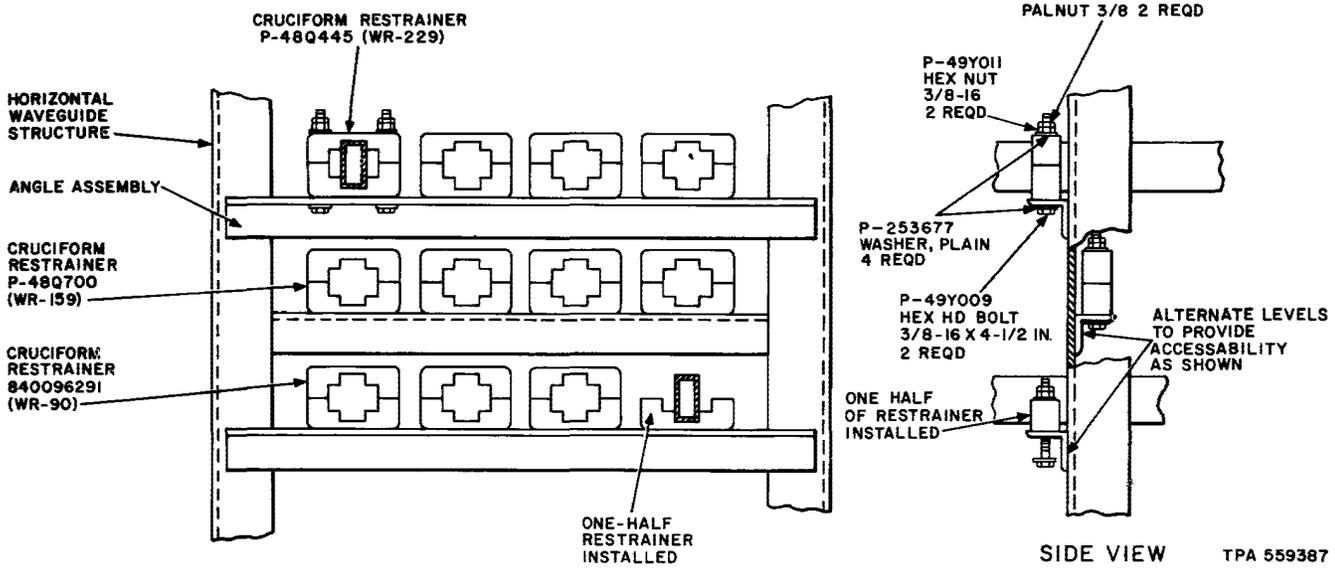

Fig. 8—Installation of Waveguide Truss and Cruciform Restrainer
2.15 Attach the angle assemblies to the vertical members of the horizontal raceway as shown in Fig. 8. Use the bolts, lockwashers, and nuts supplied. Note that each angle assembly in the vertical plane is rotated 180 degrees from the preceding angle assembly to facilitate the installation of the cruciform restrainer.
2.16 Attach one-half the cruciform restrainer to the angle assembly as shown in Fig. 8. Use the bolts, washers, nuts, and palnuts supplied with the restrainer. The nuts should be screwed only onto several threads of the bolts as they must be removed when the second half of the cruciform restrainer is installed.